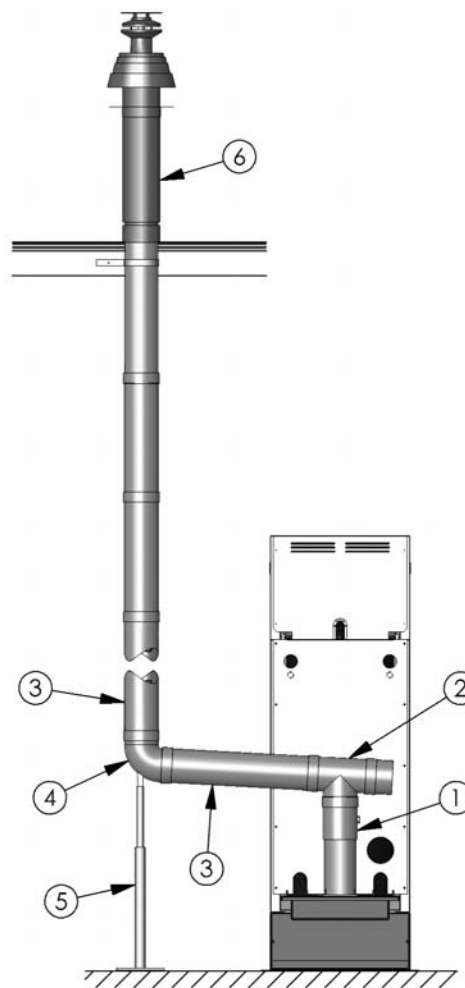

Figure 3.5: Concentric Vertical Roof Venting
- Concentric Vertical Roof Vent Kit (54049): The concentric vertical roof vent kit is used without a chimney to vent through the building roof. This type of installation is shown in Figure 3.5. Additional concentric vent pipe components may be required to complete the installation. Refer to the component list for vent pipe in Table 3.2.